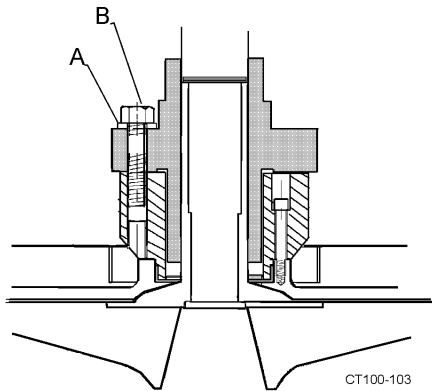

Figure 53 - Removal of Wet End
3. Remove the impeller retainer bolt and o-ring; then loosen the seal set screws (Figure 53, item A).